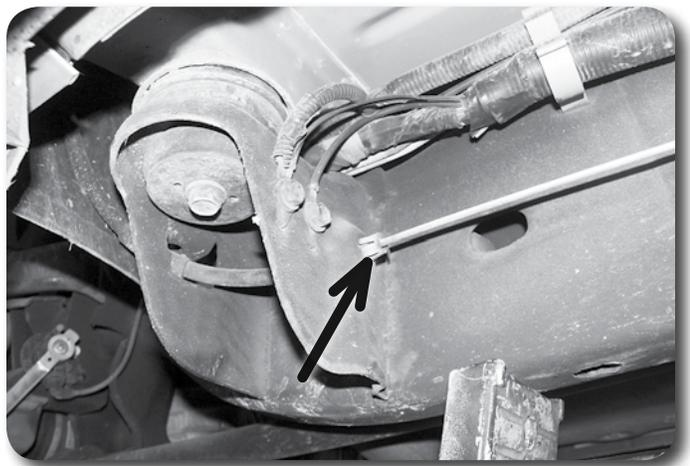

Figure 14
18. Compress the retaining clip at the body mount Figure 14 and pull the parking brake cable out the front of the body mount.